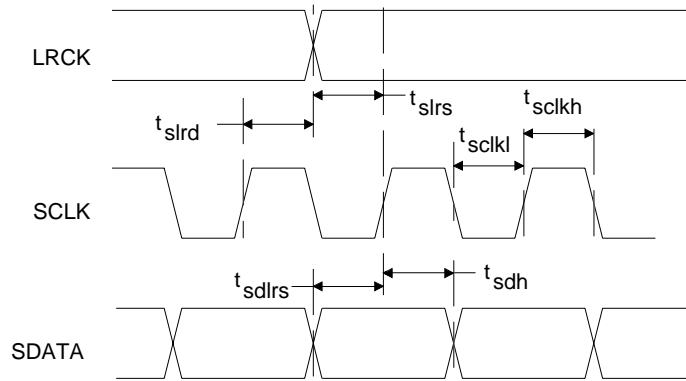

Figure 1. External Serial Mode Input Timing
8. Valid with the recommended capacitor values on FILT+ and V_Q as shown in Figure 1.